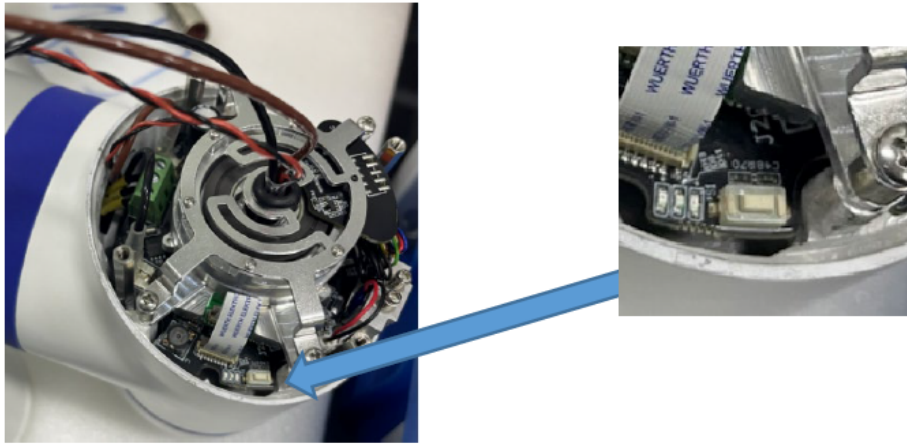

Figure 3-5 : White button
4. Click the white button as shown in **Figure 3-5** lightly, then the flashing light will flash. The times the light flashes are equal to the joint number.